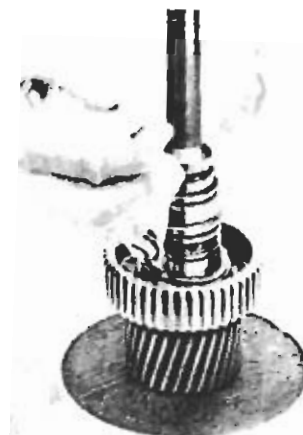

Figure 17 Assemble snap ring
**STEP 21** Assemble a snap ring (60) in drive gear groove in front of hub, figure 17.